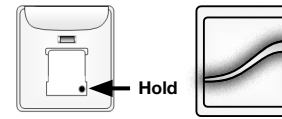

Fig. 20
- A. Press and hold the program button on the back of the remote until the LED stops flashing. The LED will flash green, amber, red, and then turn off (about 15 seconds). (Fig. 20)